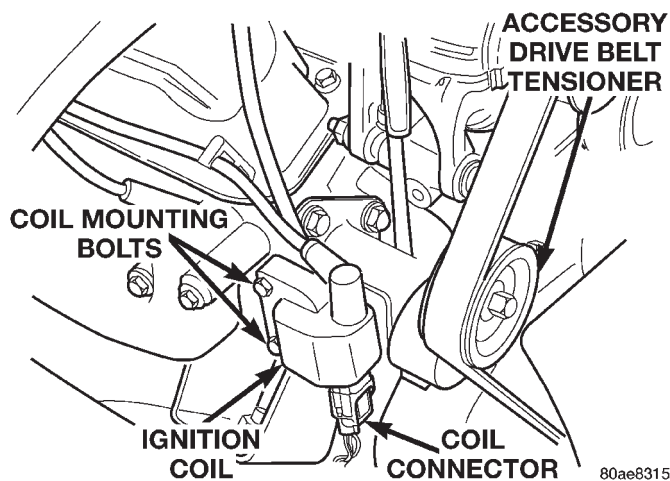

Fig. 25 Ignition Coil—5.2L/5.9L Engines
(4) Inspect ignition coil connections. Verify that coil secondary cable is firmly connected to coil (Fig. 25).